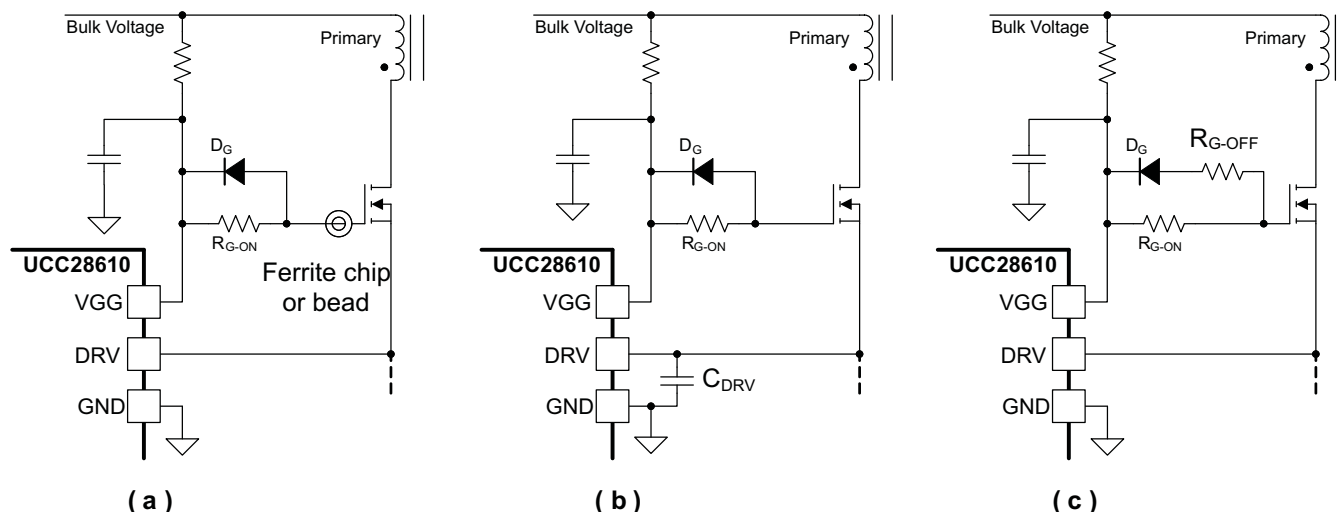

Figure 21. High Frequency Ringing Solutions, (a) ferrite chip, (b) CDRV and (c) RG-OFF
3. A gate turn-off resistor. These three techniques can be used separately or combined, as shown in Figure 21.